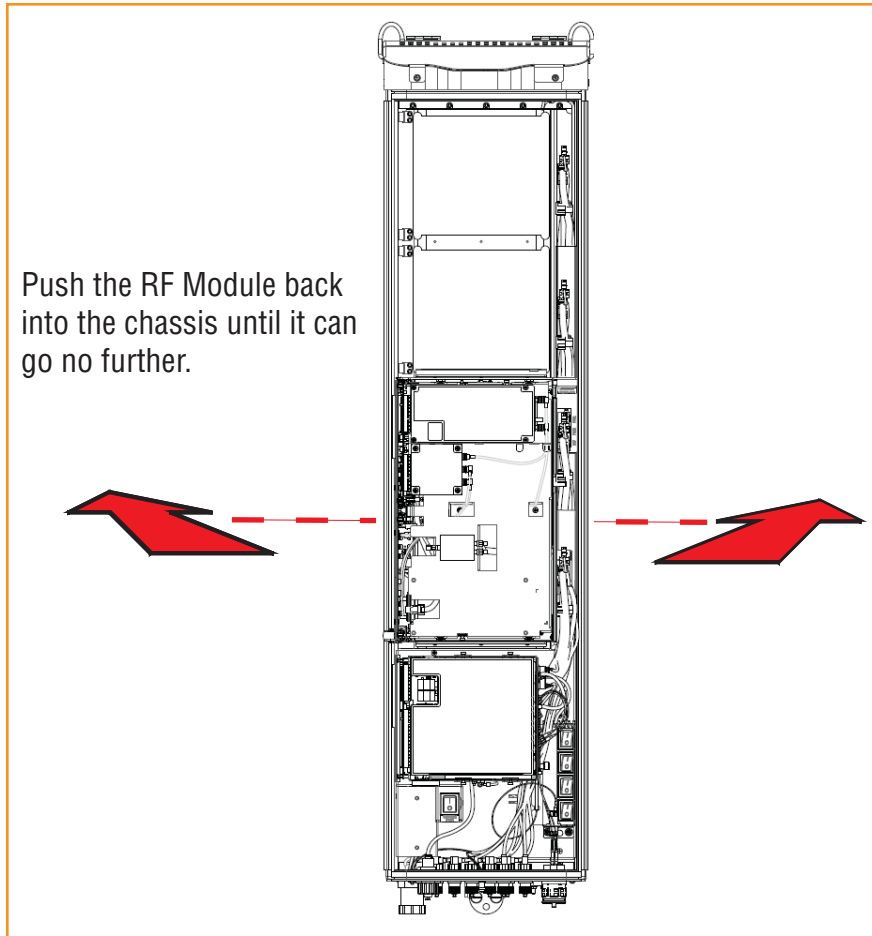

Figure 17. Seating a Dual-Slot RF Module
- For Dual-Slot RF modules, see Figure 17 on page 32, which uses the Dual-Slot 40W RF Module as an example.